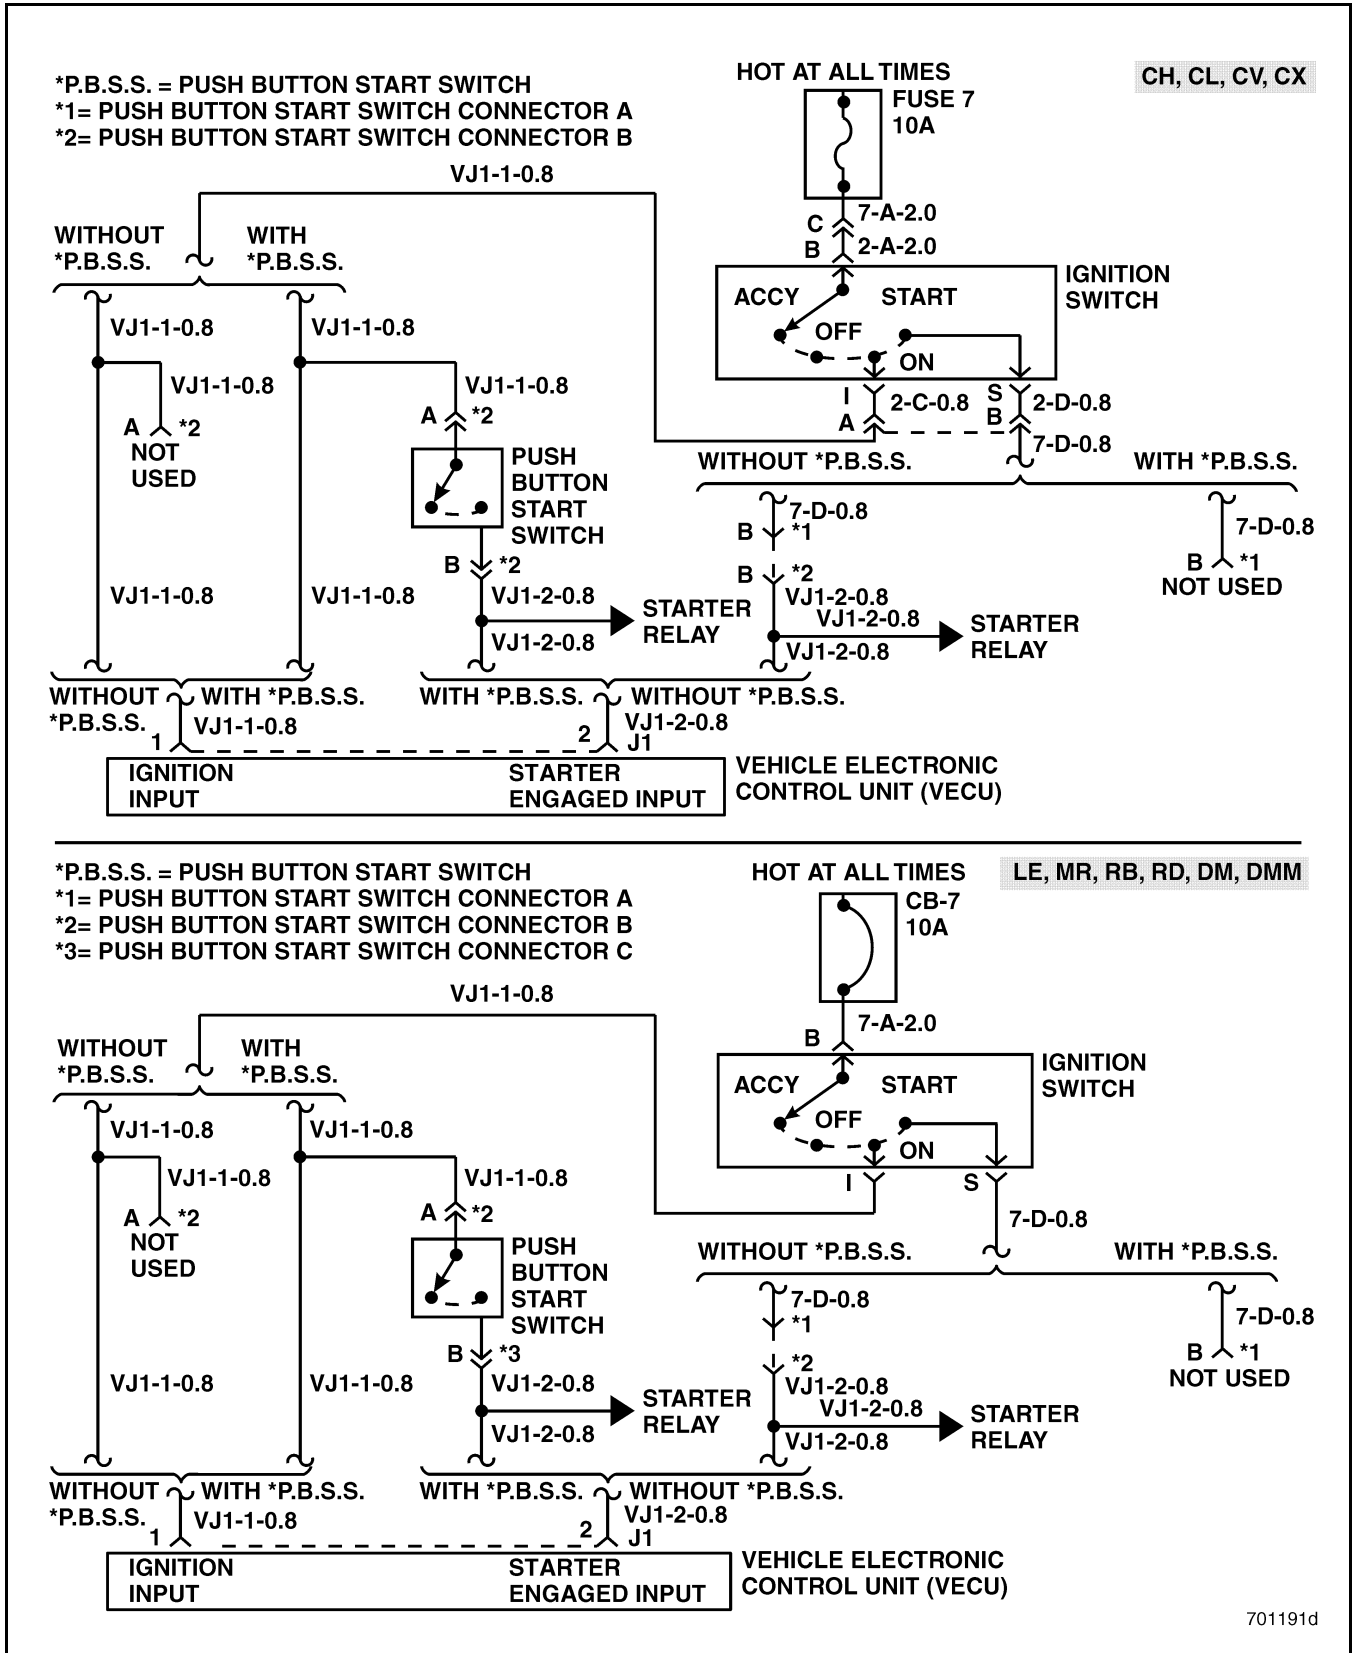

Figure 92 — Starter Engaged Input Circuit
3. On the ignition key switch side of the Push Button Start Switch connector, measure the voltage between circuit 7-D-0.8 and a good ground (see Figure 92).